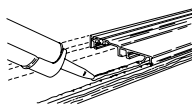

Fig. 4
- Put a generous bead of caulk along the outside edge of the sub-floor and another generous bead of caulk 1/2" in from the first (Fig. 4). Be sure caulking beads seal the threshold and sub-floor to prevent the infiltration of moisture.